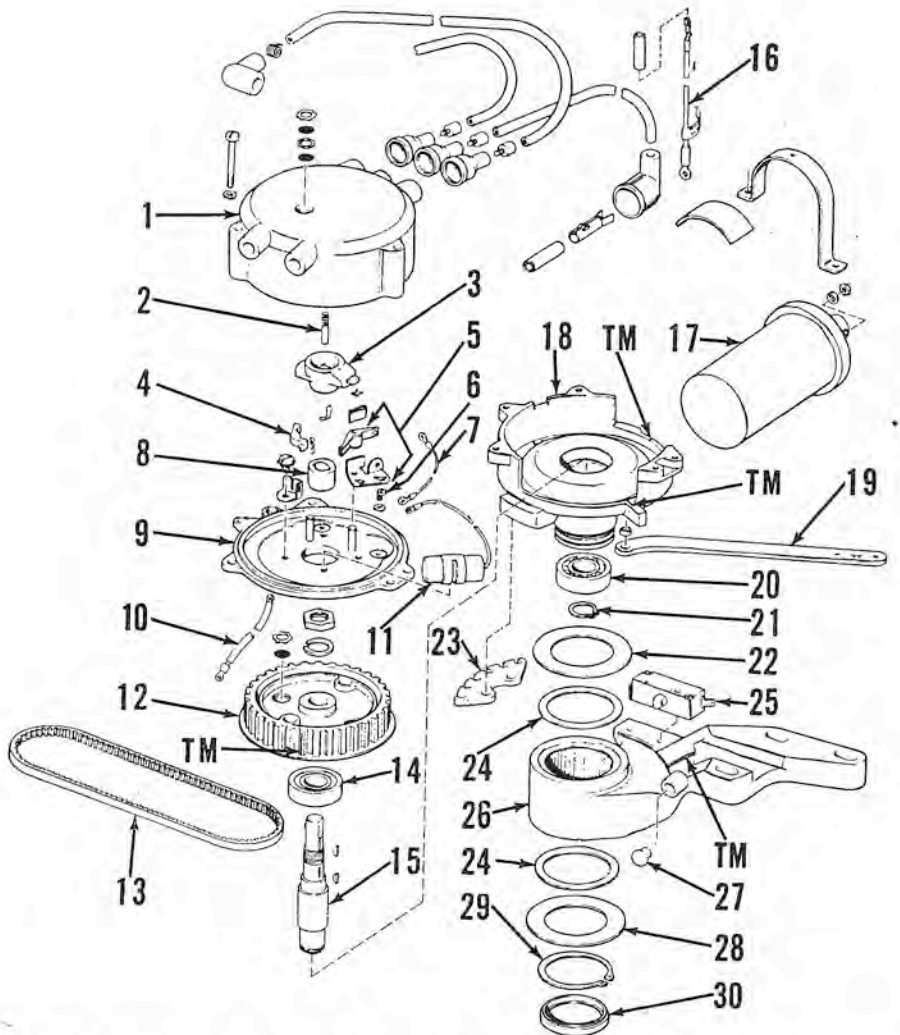

Fig. J93—Exploded view of battery ignition system used on some late models. Installation and timing is similar to that of magneto equipped motors.
To time the distributor, remove the distributor cap (1—Fig. J93) and align the marked tooth on drive pulley (12) with one of the timing marks (TM) on drive housing (18); then proceed as outlined in the previous MAGNETO paragraph.